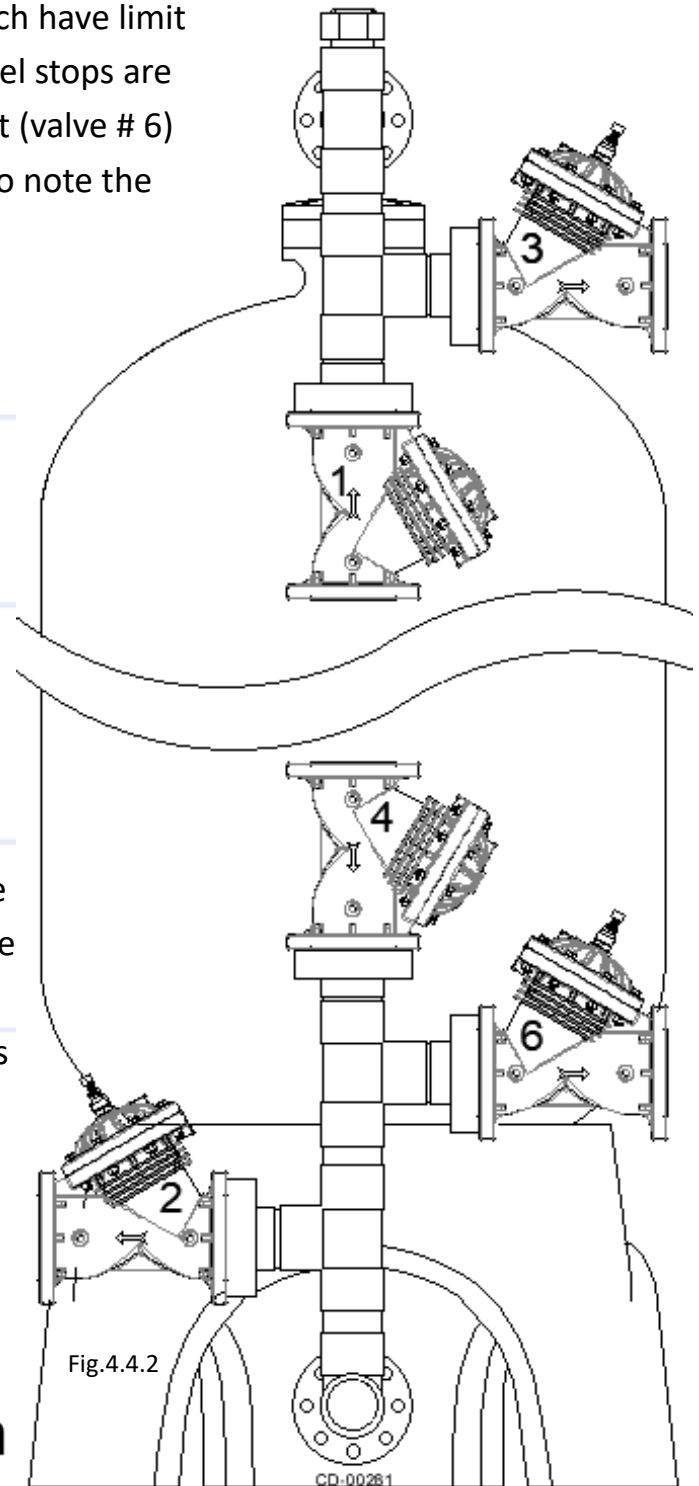

Fig.4.4.2
-Each unit has five diaphragm valves, three of which have limit (travel) stops that have specific locations. The travel stops are on the backwash outlet (valve #3), fast rinse outlet (valve # 6) and service outlet (valve #2). See figure 4.4.2. Also note the arrow on the valve show the direction of flow.
-There is one stager controller for each manifold/tank unit. Each stager controller has a stager built into the bottom of the controller. The stager has eight ports. There is one port for the inlet supply pressure source. There is one other port for the exhaust. There are six other ports numbered one to six. These numbered ports are connected to the diaphragm valves using the 1/4" tubing. The diaphragm valves on the manifold drawings are also numbered one to six (see figure 4.4.2) Each port number goes to the diaphragm valve with the same number. On filters, there is no valve five. On the stager, port five is plugged (brass 1/8" npt plug supplied).